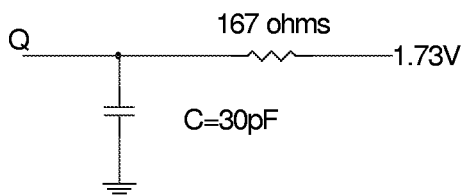

Fig. 1 Output Load Equivalent
Output load	See Figures 1 and 2
5. Test conditions as specified with the output loading as shown in Fig. 1 unless otherwise noted.